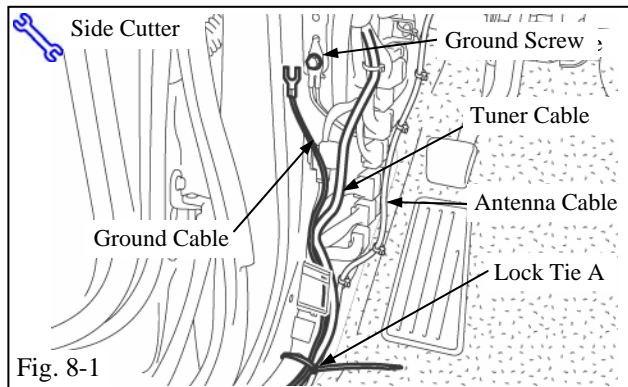

Fig. 8-1
- (a) Install the ground cable. (Fig. 8-1)
- (1) Loosen the existing ground screw.
- (2) Route the ground cable into the kick panel area; then secure the ground cable terminal with the ground screw.
- (b) Secure the tuner cable, the antenna cable and the tuner ground cable all together with the one (1) lock tie A. (Fig. 8-1)